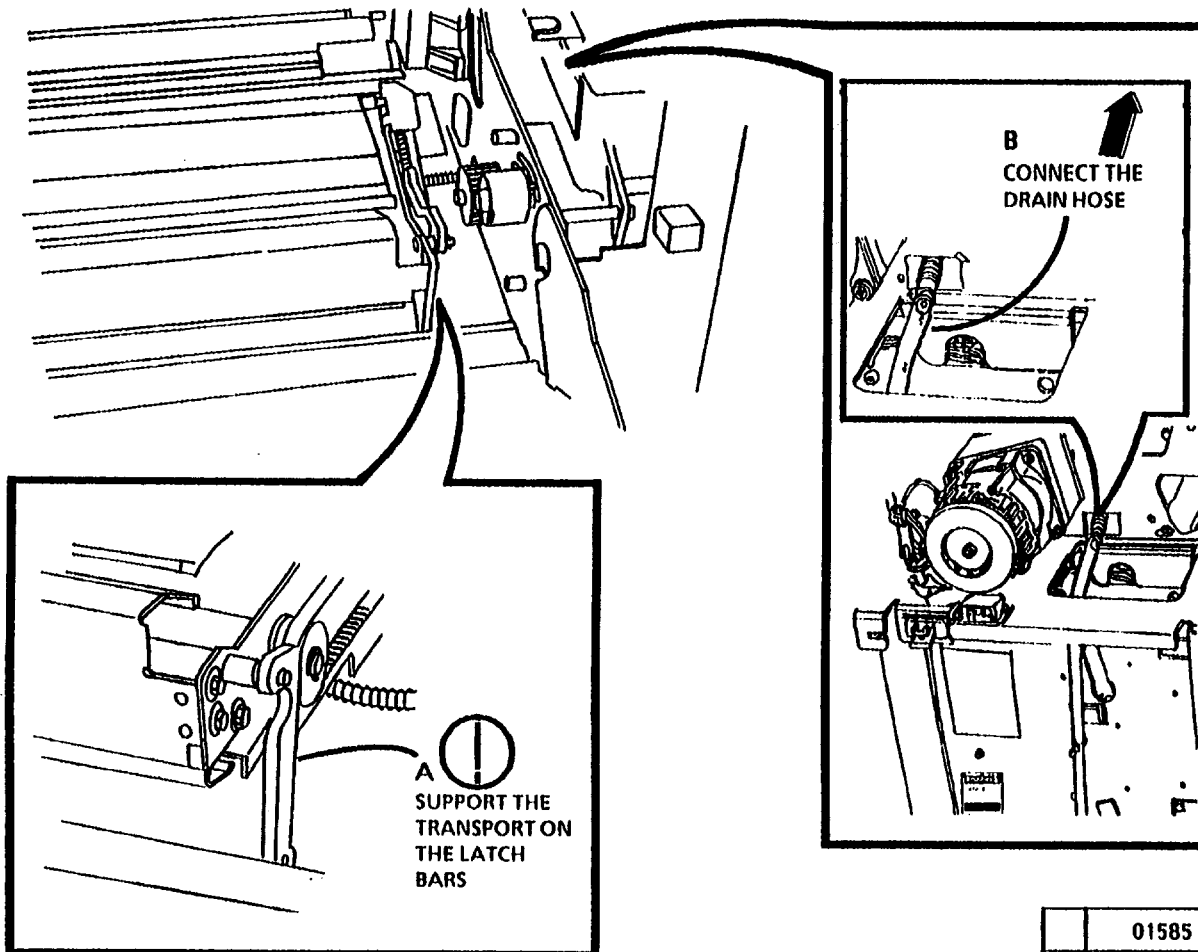

Figure 4 . Install the Drain Hose in the Moisture Collection Bottle
2. (Figure 4): Connect the drain hose.